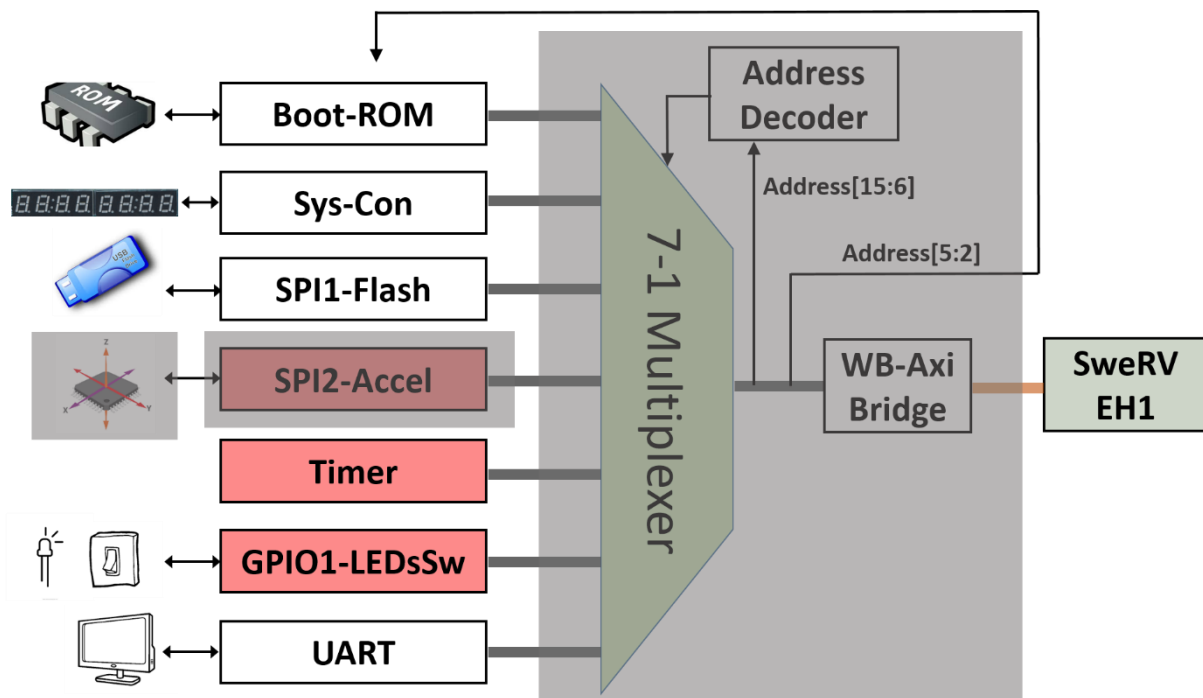

Figure 8. SPI controller integrated into the RVfpga System
1. Physical connection between the SoC and the accelerometer (left shadowed region in Figure 8)
2. Integration of the SPI controller, which is included inside the SweRVolfX System Controller (middle shadowed region in Figure 8)
3. Connection between the SPI controller and the SweRV EH1 Core (right shadowed region in Figure 8)